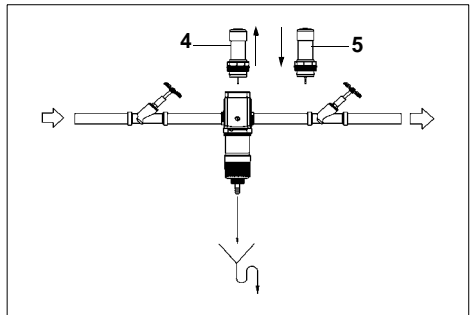

Fig. 9: Cartridge exchange III
4. Lift the empty phosphate cartridge (4) out of the device (see Fig. 9).
5. Insert the new phosphate cartridge (5) into the device.